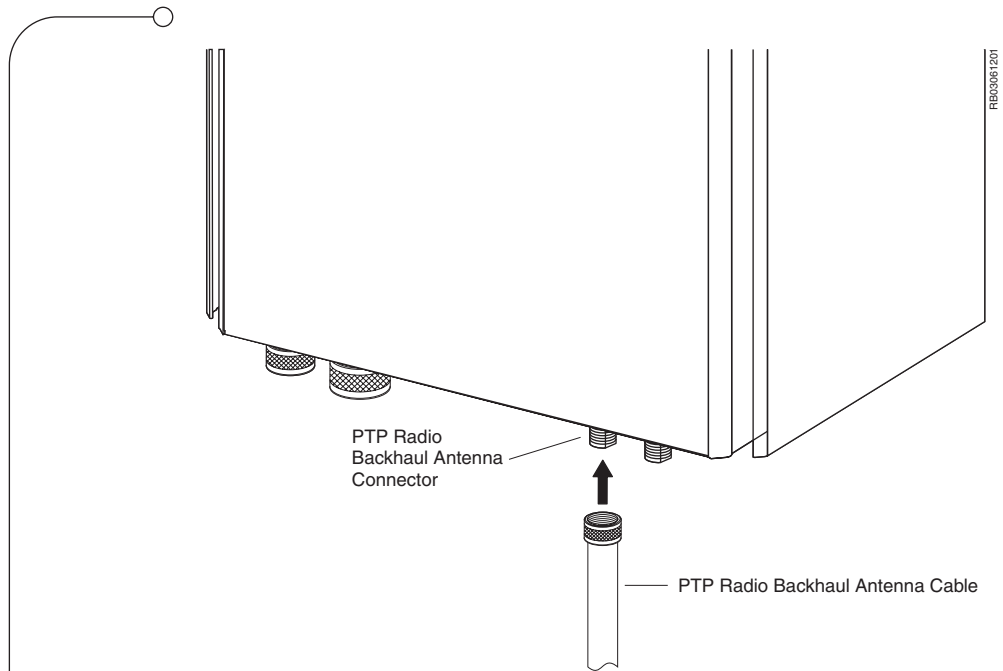

Figure 3.13 Antenna Cable Connection
- Connect the Antenna Cable to the PTP Radio Backhaul Antenna Port on the bottom of the SBS cabinet, as shown in Figure 3.13 on page 45.